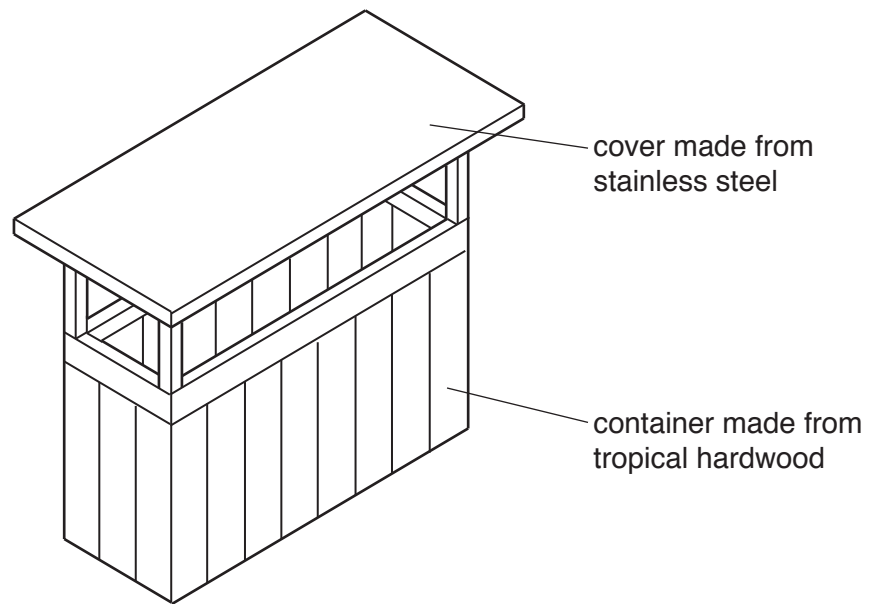

Fig. 1
16 Fig. 1 shows a waste bin that is to be used in a school playground.
- (b) With reference to the waste bin shown in Fig. 1 explain the meaning of the following: